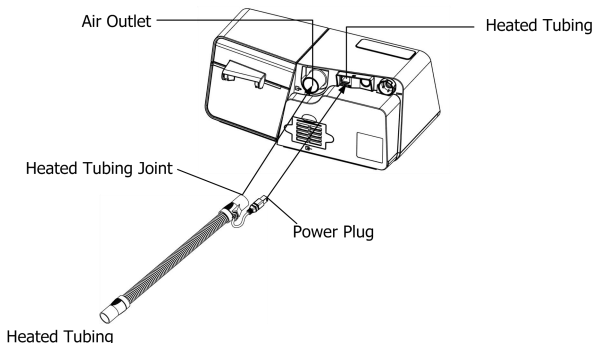

Fig. 12-9
(2) Or if the heated tubing is applied, connect the heated tubing joint to the air outlet of the device, and then insert the power plug of the heated tubing into the heated tubing port on the back of the device, as shown in Fig. 12-9.